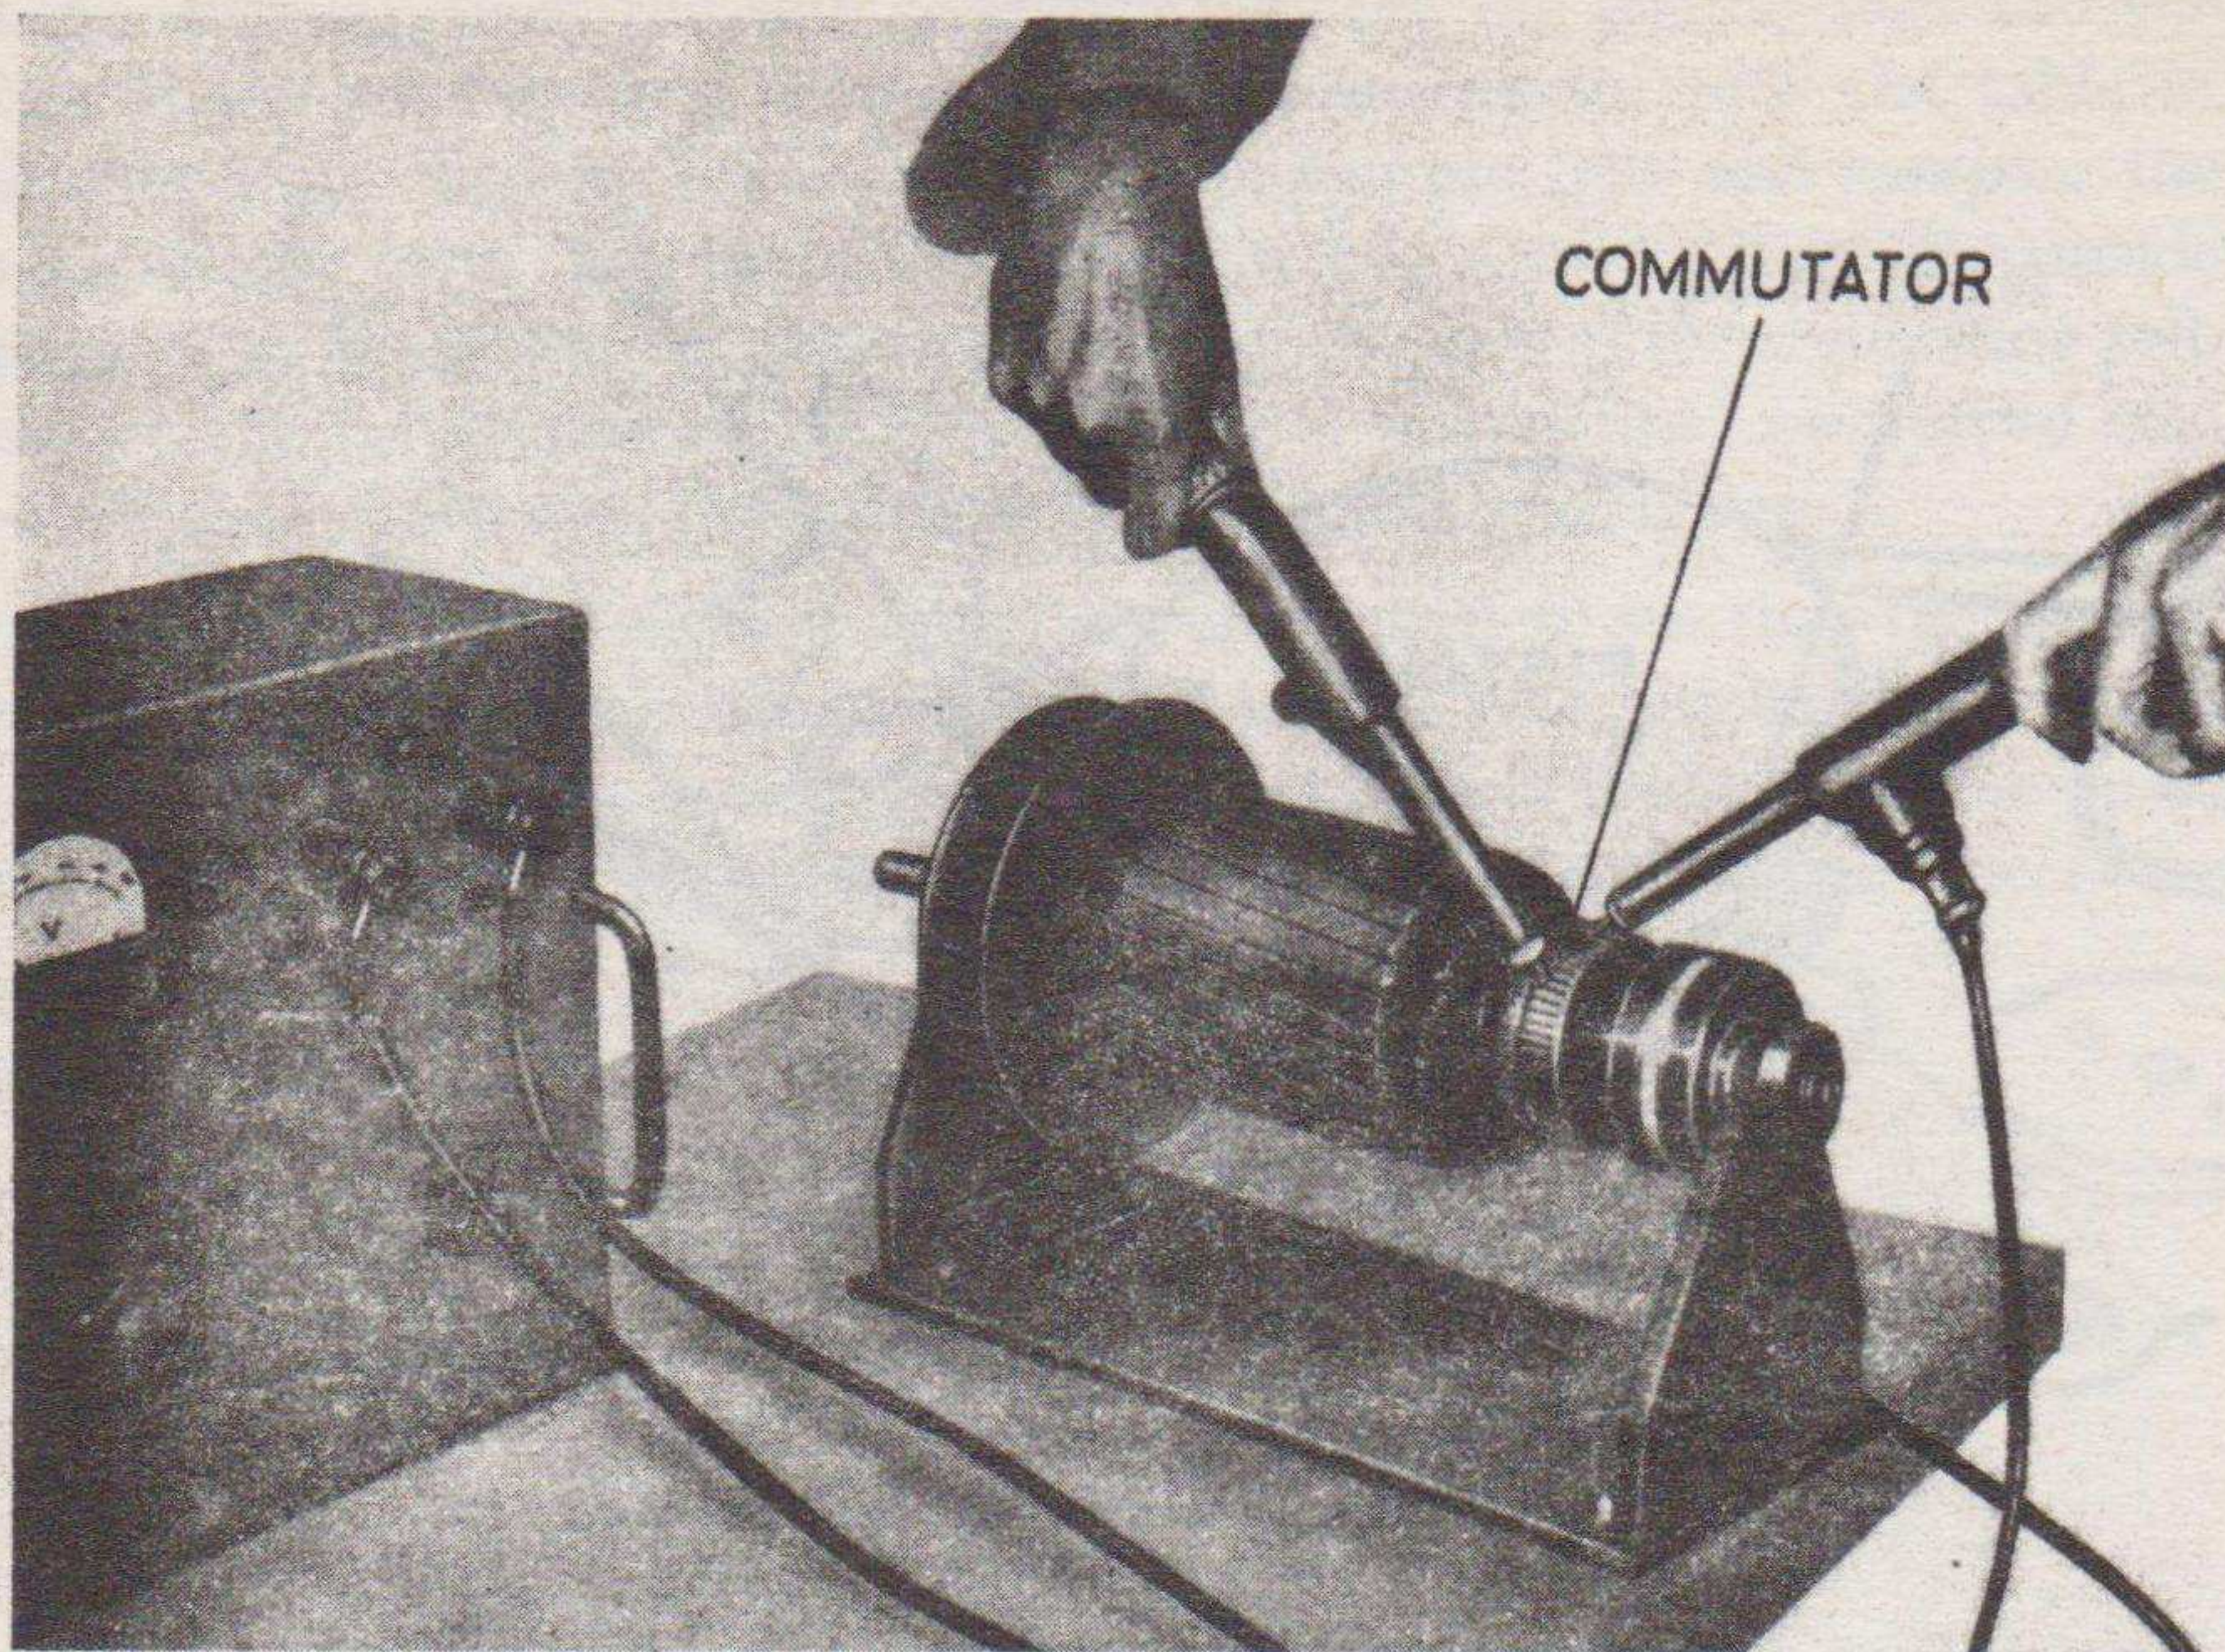

Figure 24. Testing for short-circuited armature.
b. Generator Rotor Inspection (figs. 24 and 25). Inspect the slip rings to see that they are not worn or pitted. See that they are not grooved from brush contact. Inspect the commutator to see that it is not burned, worn, or pitted. See that it is not grooved from brush contact and that the undercutting of the mica between the commutator bars is satisfactory. Inspect the commutator to see that all leads are soldered satisfactorily. Test the rotor for grounding or for a short circuit as follows:
- (1) Secure a continuity meter and place one of the test prods on one of the commutator bars. Hold this prod on the bar selected and place the other prod on the bar that is 180° around the commutator. Move the two test prods around the commutator, keeping them 180° apart, until all commutator bars have been tested. If a reading is obtained at any point, the rotor is short-circuited (fig. 24).